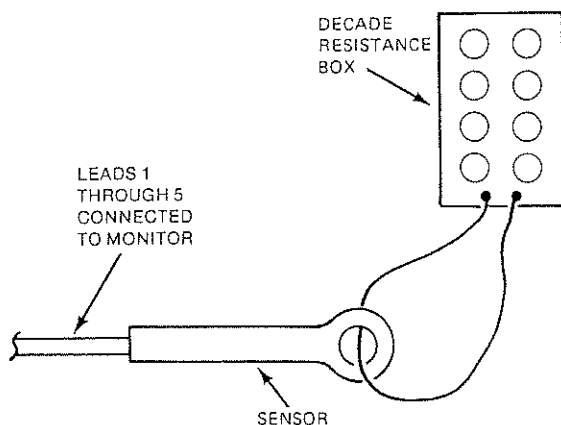

Figure 15.
14. Route resistance loop from decade box through sensor as shown in Figure 15.
The value calculated for  $R_L$  in the preceding formula assumes a single loop (or turn) through the sensor as shown in Figure 15. If values calculated are not easily obtainable using decade box, the user may loop decade box wire several times through sensor and then multiply  $R_L$  by square of the number of loops used. EXAMPLE: If  $R_L$  is calculated as being 0.45 Ω, user may choose to put 10 loops through sensor. The square of 10 is 100.  $100 \times 0.45 = 45$ .  $R_L = 45 \Omega$ .